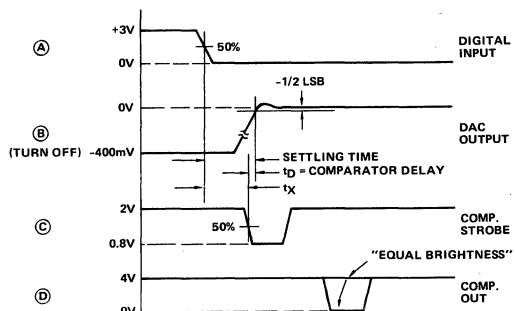

Figure 3B
As shown in Figure 3B, settling time equals t_X plus the comparator delay ($t_D = 15$ ns). To measure t_X ,
- Adjust the V_{LSB} supply for 50 percent triggering at COMPARATOR OUT. This is indicated by traces of equal brightness on the oscilloscope display as shown in Figure 3B. Note DVM reading.
- Switch the LSB to Pulse (P).
- Measure t_X from scope as shown in Figure 3B. Settling time equals $t_X + t_D$, i.e. $t_X + 15$ ns.